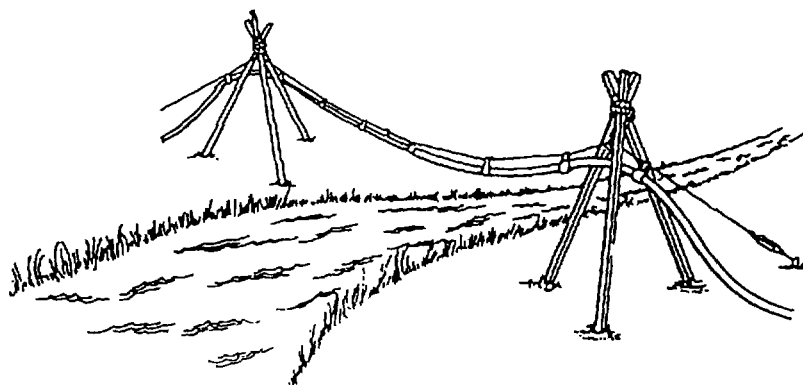

Figure 1-13. Suspension Kit
(16) **SUSPENSION KIT (Figure 1-13).** Used to construct suspensions across streams, ponds, or gulleys.